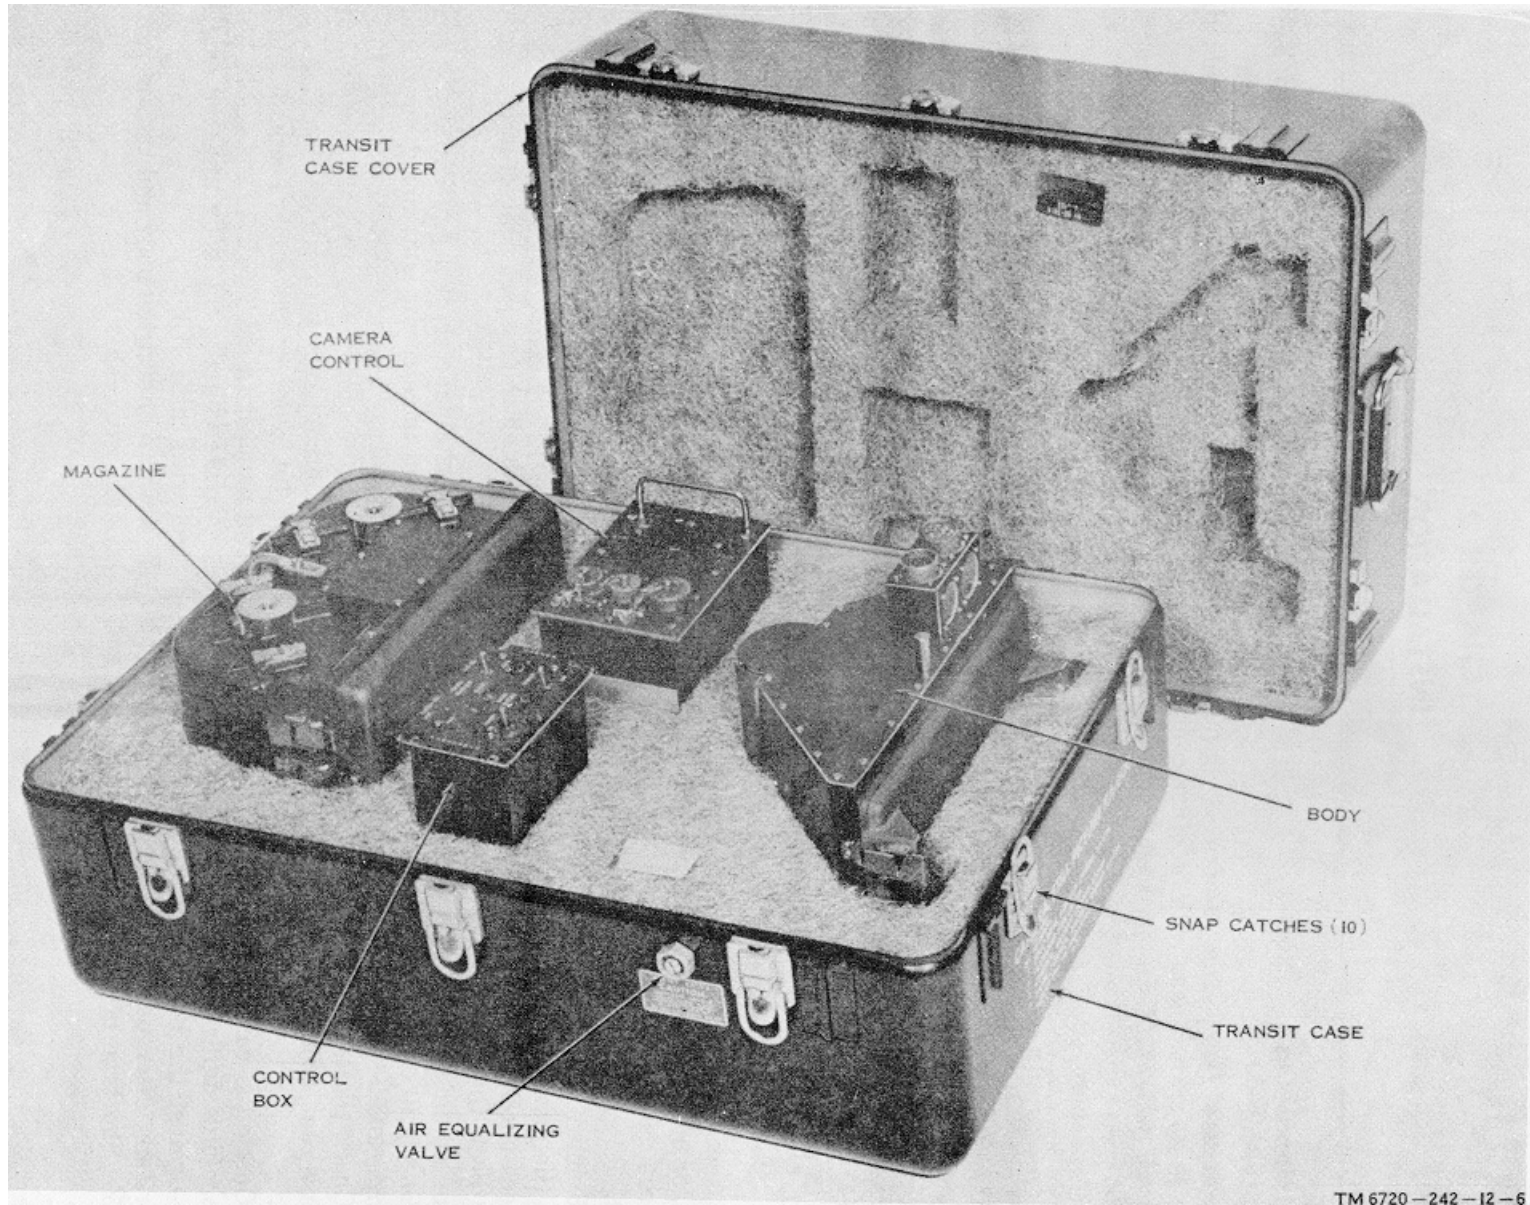

Figure 2-1. Transit case
e. *Transit Case* (fig. 2-1). The transit case is made of aluminum with molded inserts to protect the camera components during transport or storage. The manually operated air equalizing valve (fig. 2-1) equalizes the